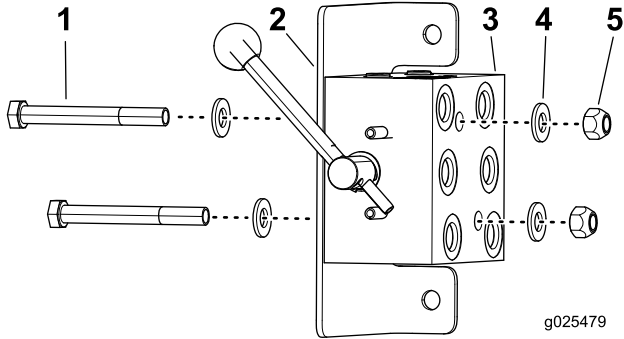

Figure 7
1. Attach the bracket to the valve (Figure 7).